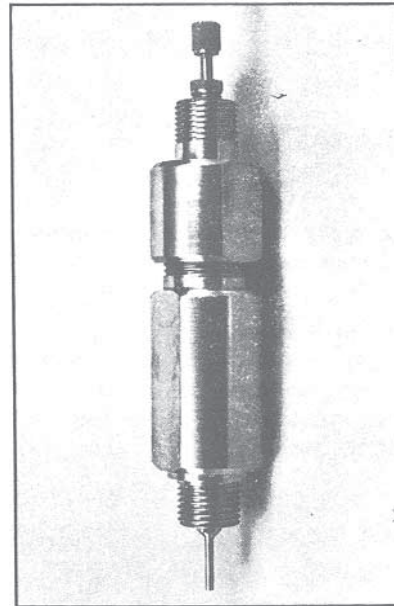

FIG. 16
7. Loosen and unscrew bonnet assembly from body. (Fig. 16)